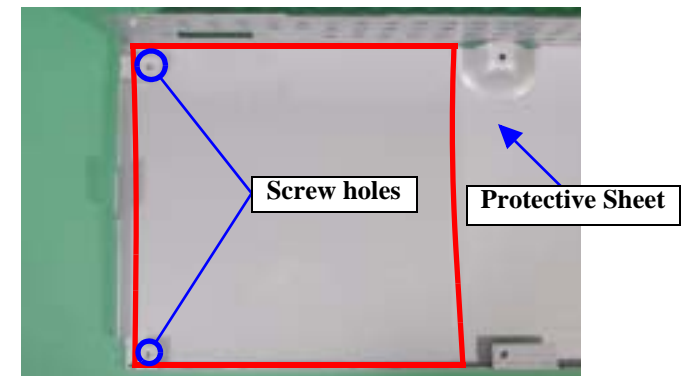

Figure 4-20. Fitting the Protective Sheet
- Always fit the Protective Sheet under the PSB/PSE Board after matching the two screw holes with those of the Board Unit. Refer to Figure 4-20, "Fitting the Protective Sheet".